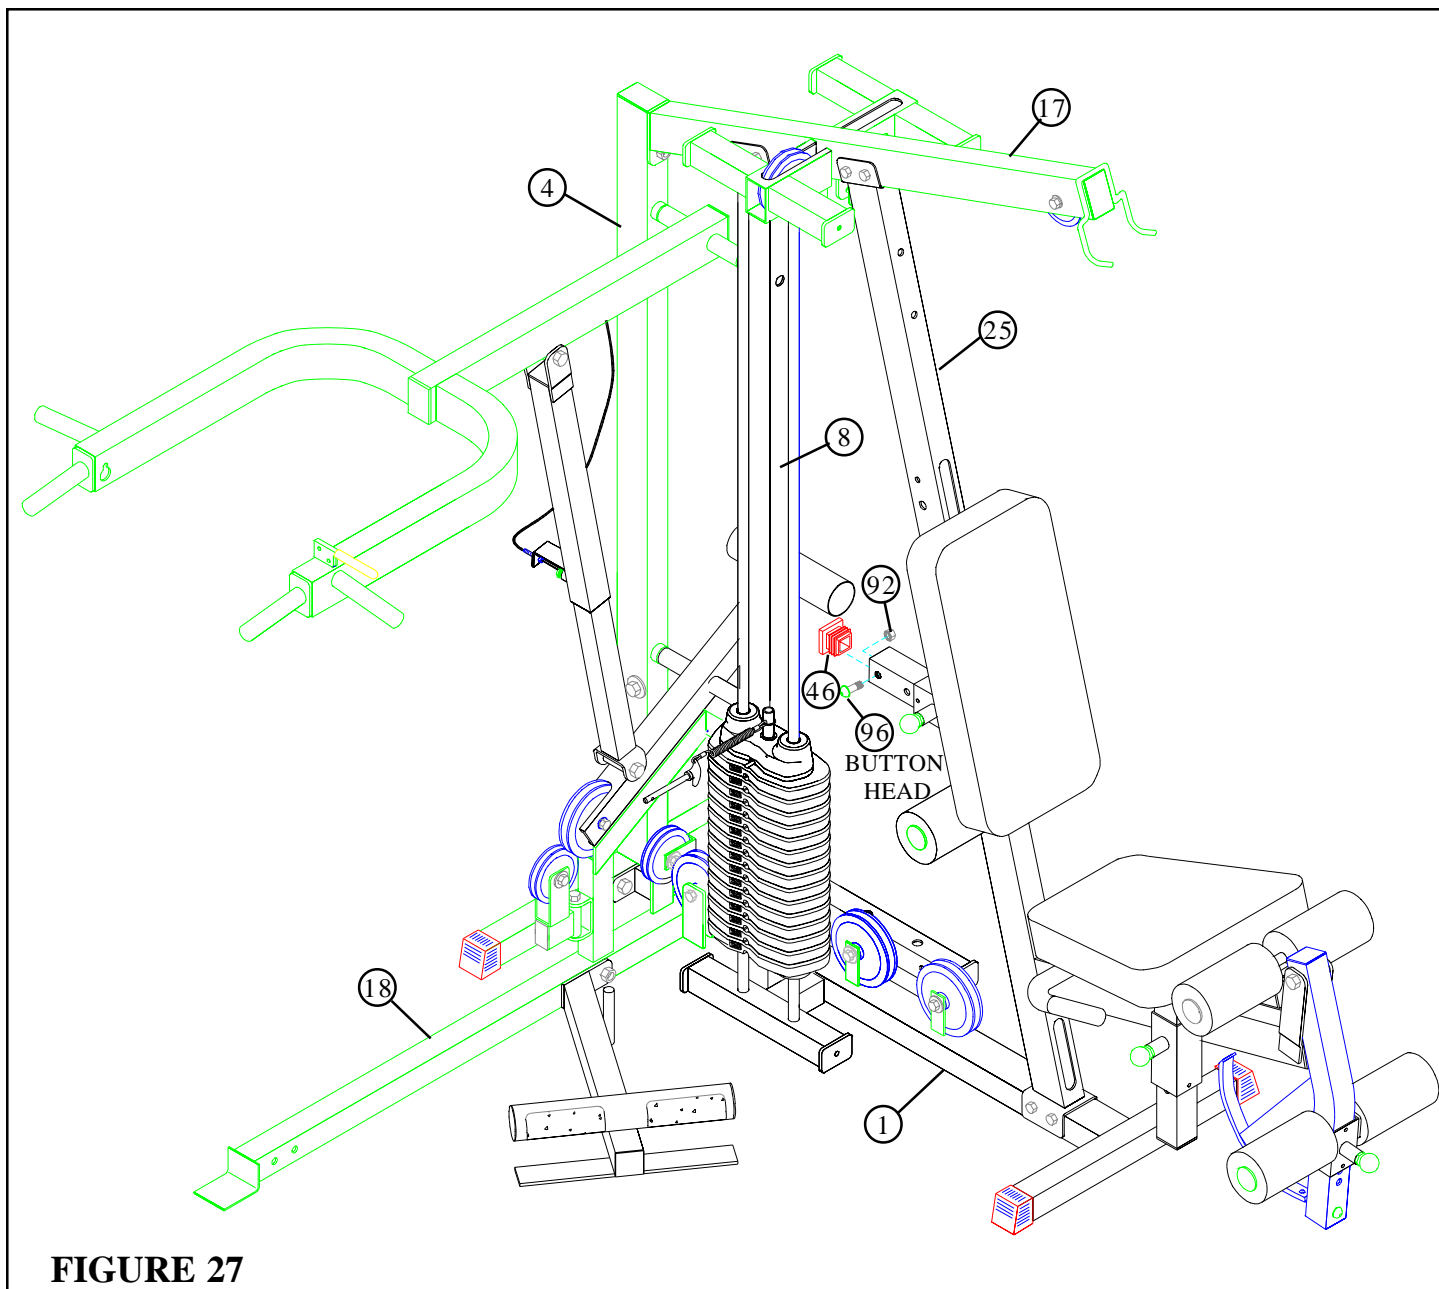

FIGURE 27
- **SECURELY** assemble one 3/8" X 1" BUTTON HEAD CAP SCREW (96) and one 3/8" LOCK NUT (92) to the last hole on the BACK PAD ADJUST (16). See FIGURE 27.
- **SECURELY** insert one 2" SQ. END CAP (46) to the open end of the BACK PAD ADJUST (16). See FIGURE 27.
- MIDDLE UPRIGHT (8) to the BASE (1) and to the TOP BOOM (17).
- REAR UPRIGHT (4) to the BASE (1) and to the TOP BOOM (17).
- PRESS BASE (18) to the REAR (4) and MIDDLE UPRIGHTS (8).
- PRESS BASE (18) to the BASE (1).
- FRONT UPRIGHT (25) to the BASE (1).